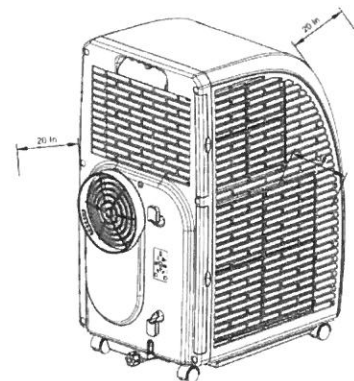

Fig.5
- Install in a flat and dry place, and keep a buffer of least 20in around the air conditioner to enable smooth circulation of air.(as shown in Fig.5)